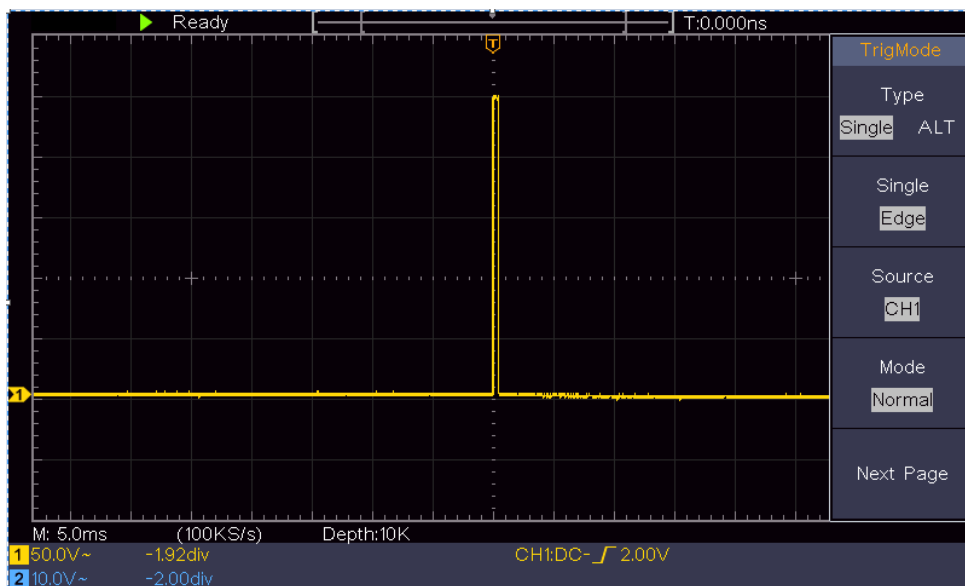

Figure 6-3 Capturing a Single Signal
- (3) Push the **Acquire** button to display the right menu.
- (4) In the right menu, select **Acqu Mode** as **Peak Detect**.
- (5) Push the **Trigger Menu** button to display the right menu.
- (6) In the right menu, select **Type** as **Single**.
- (7) In the right menu, select **Single** as **Edge**.
- (8) In the right menu, select **Source** as **CH1**.
- (9) In the right menu, press **Next Page**, select **Coupling** as **DC**.
- (10) In the right menu, select **Slope** as  (rising).
- (11) Turn the **Trigger Level** knob and adjust the trigger level to the roughly 50% of the signal to be measured.
- (12) Check the Trigger State Indicator on the top of the screen, if it is not Ready, push down the **Run/Stop** button and start acquiring, wait for trigger to happen. If a signal reaches to the set trigger level, one sampling will be made and then displayed in the screen. By using this approach, a random pulse can be captured easily. For instance, if we want to find a burst burr of high amplitude, set the trigger level to a slightly higher value of the average signal level, push the **Run/Stop** button and wait a trigger. Once there is a burr occurring, the instrument will trigger automatically and record the waveform during the period around the trigger time. By turning the **Horizontal Position** knob in the horizontal control area in the panel, you can change the horizontal triggering position to obtain the negative delay, making an easy observation of the waveform before the burr occurs (see *Figure 6-3*).